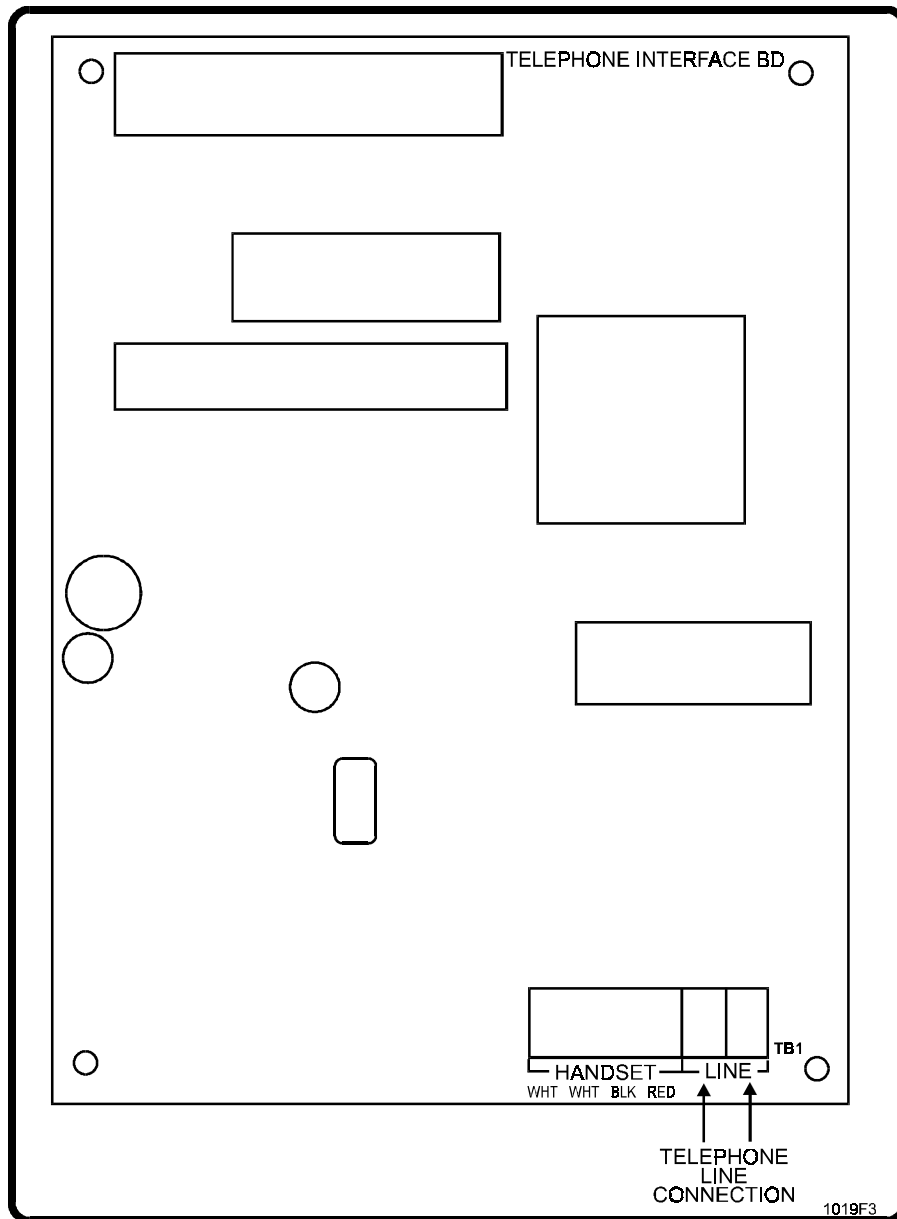

Figure 2. Telephone Interface Board Connections.
1. Connect a two conductor, 18 to 22 AWG cable (Belden Datalene #9501 or equivalent) to TB1 on the right lower corner of the telephone interface board (see Figure 2).